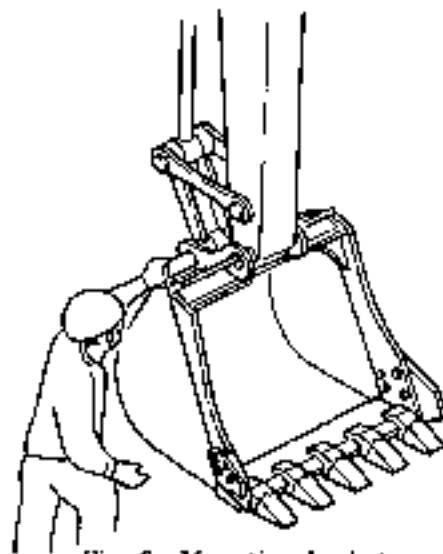

Fig. 3 Mounting bucket
### (2) Mounting bucket (See Fig. 3)